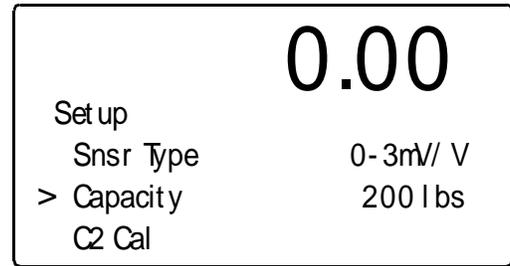

FIG. 2-35 TRADITIONAL CALIBRATION/ZERO VALUE
- Step 5. Press the Enter Button to set the entry. Press the “-” button until the cursor is in front of “Capacity”. (See Fig. 2-35).